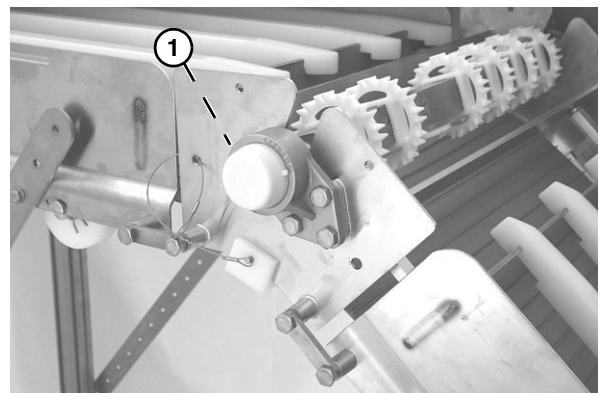

Figure 43
2. On LPZ knuckles, add grease to grease fitting (**Figure 43, item 1**).